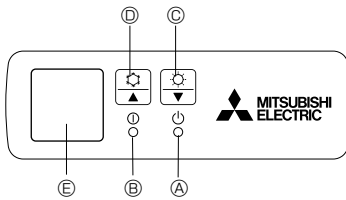

Fig. 9-1
- [Fig.9-1] A DEFROST/STAND BY lamp